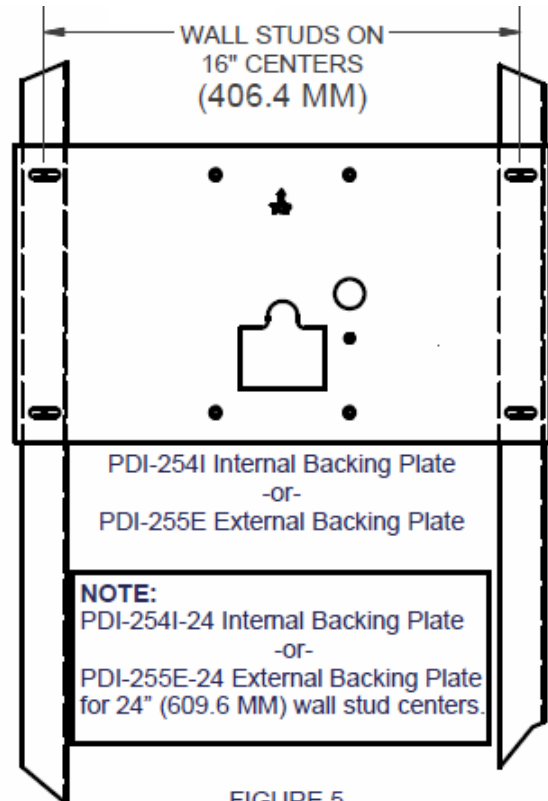

FIGURE 5.
2. FABRICATED BACKING PLATE – A fabricated plate is used that holds welded-on or pressed-in studs. The studs (1/4"-20UNC-2A) would be located on hole centers that coincide with the wall studs. The plate is then secured to the wall studs. A prefabricated plate PDI-254I or PDI-254I-24 is available from PDi. See FIGURE 5. An external plate is also available. Consult the backing plate instructions packed with each plate for installation details.